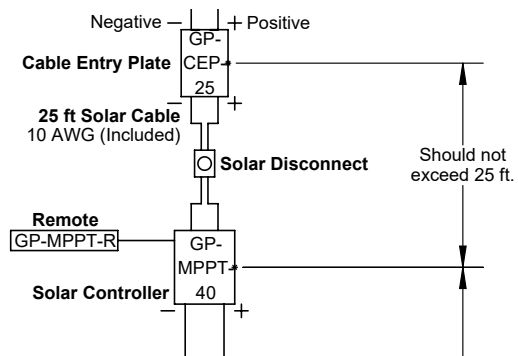

FIGURE 4-E
3. Drill 4 clearance holes (0.201") for the #10 x 3/4" mounting screws through the provided housing mounting template on the back wall of the disconnect housing. (See Figure 4-F). Note, the disconnect housing may also be mounted using the 2 slots at the top and bottom if desired.